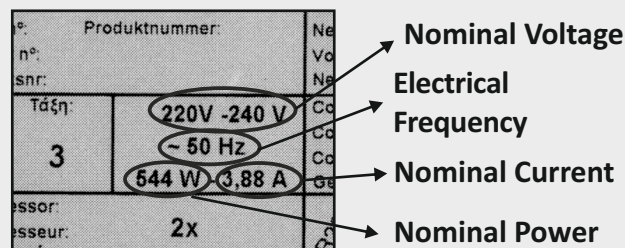

Figure 1
- Before connecting the appliance, make sure that the connection data (voltage and frequency) on the data plate match the local mains electricity supply. (see example of Fig. 1)